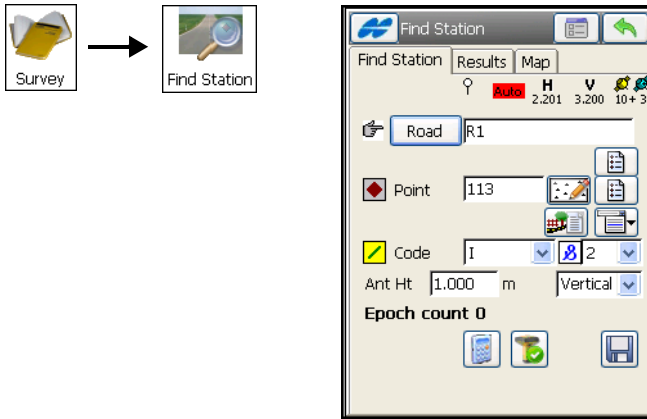

Figure 8-30. Find Station.
1. To start working, select the **Survey ► Find Station** icons (Figure 8-30 on page 8-33).
2. Enter the Road/Horizontal alignment/Horizontal and Vertical alignments name, the name, and the code of the point and the antenna height and type (Figure 8-30 on page 8-33).
3. To compute the result with an existing point, tap the  button (Figure 8-30 on page 8-33).
4. To compute the result with the coordinates of the current location without making an observation, tap the  button (Figure 8-30).
5. To make an observation of the current location and store the coordinates to a point, and to compute the result with this point, tap the  button (Figure 8-30).